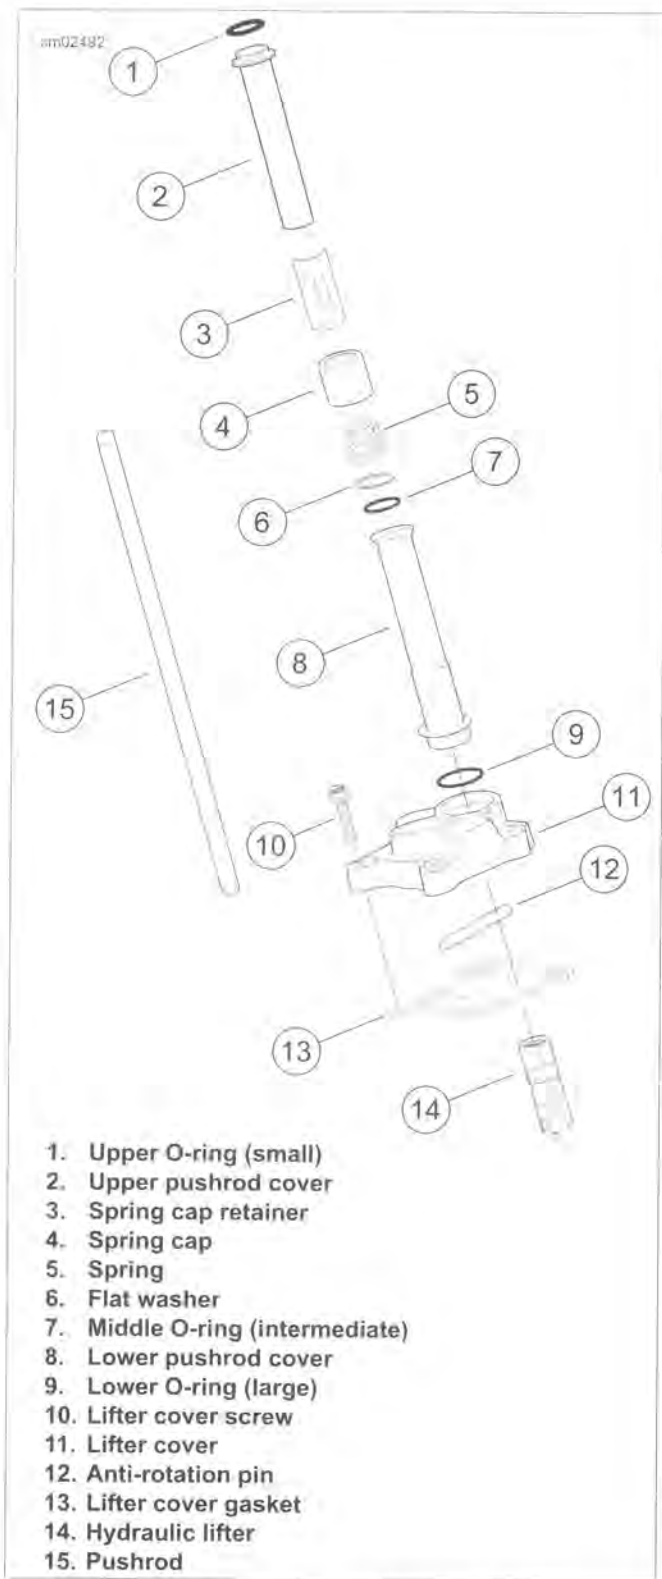

Figure 3-32. Pushrods, Lifters and Covers
1. See Figure 3-32. Separate upper (2) and lower (8) pushrod covers.
2. Remove and discard O-ring (9).
3. Remove O-ring (1). Slide O-ring (7), flat washer (6), spring (5) and spring cap (4) from upper pushrod cover (2). Discard O-rings.
1. See Figure 3-32. Clean old gasket material from the lifter cover (11).
2. Except for the hydraulic lifters (14), clean all parts in a non-volatile cleaning solution or solvent. Verify that the O-ring seats and contact surfaces of the pushrod covers (2, 8) are completely clean.
6. See Figure 3-32. Examine the pushrods (15). Replace any pushrods that are bent, dented, damaged, discolored or if the ball ends show signs of excessive wear or damage.